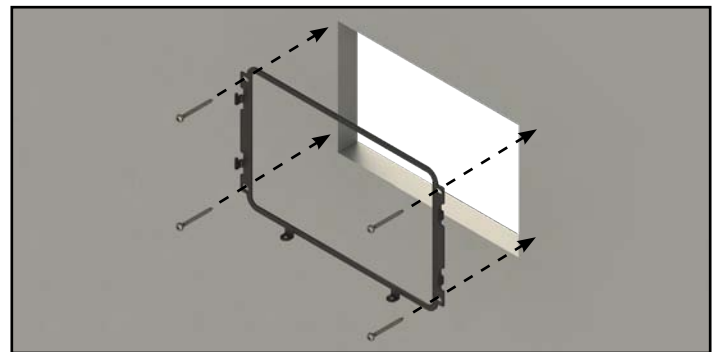

Fig.22
4. Secure the mounting bracket with the 4 provided 1/4" pan head Phillips sheet metal screws (**Fig.22**).